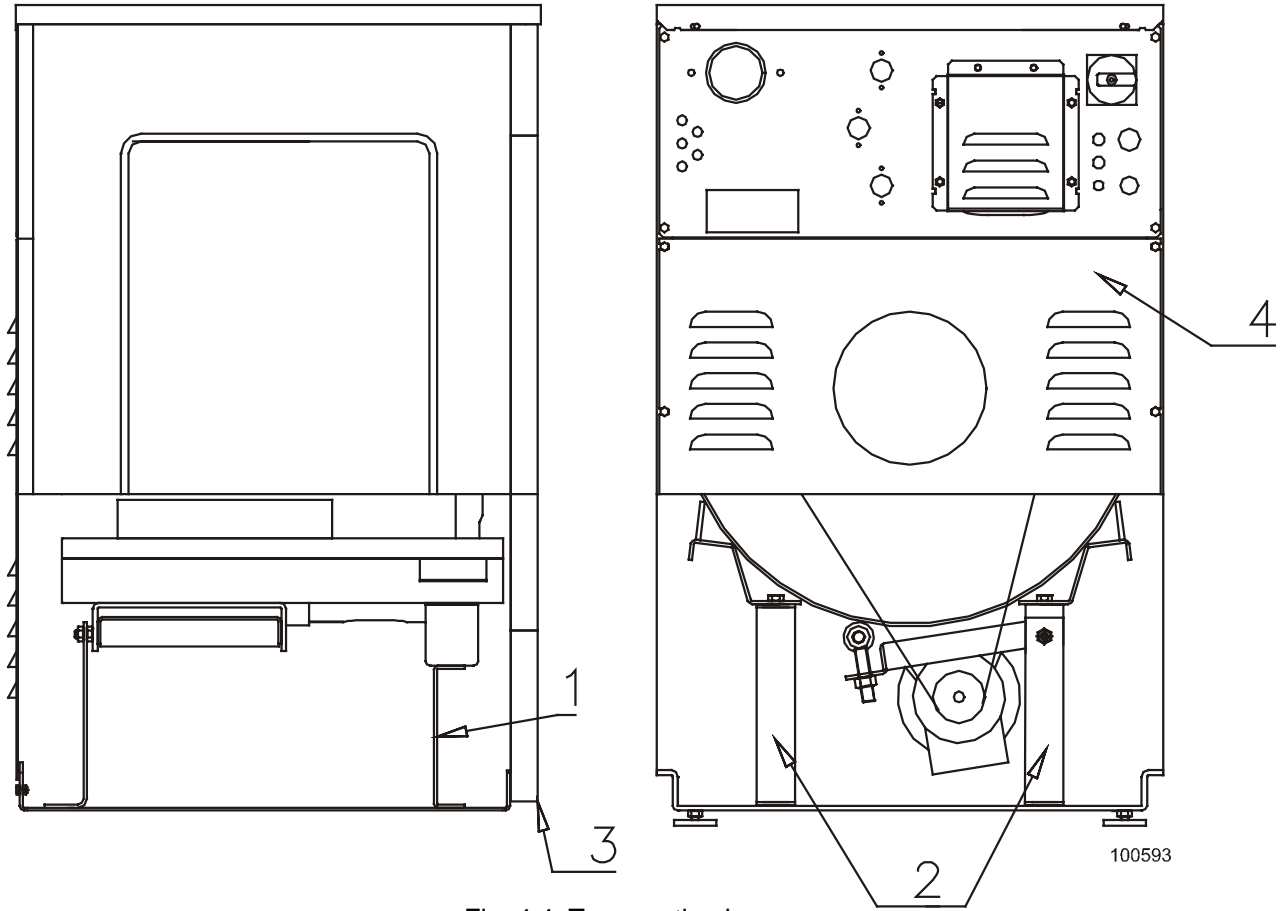

Fig. 4.4. Transporting braces
1. Remove fixation plate front, fig. 4.4. pos. 1.
2. Remove fixation plate rear right, fig. 4.4. pos. 2.
3. Remove fixation plate rear left, fig. 4.4. pos. 2.
After removing the shipping bars put the service panel, fig. 4.4. pos.3 and the rear panel, fig.4.4. pos.4 back on the machine. Keep the shipping bars pos.1, 2 for possible future transportation.